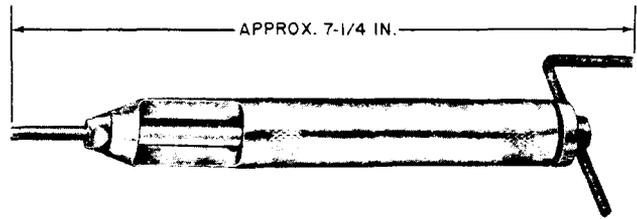

Fig. 32—HELI-COIL Corp Inserting Tool
**2.34 HELI-COIL\* Corp Inserting Tool:** The HELI-COIL Corp inserting tool (Fig. 32) is used for HELI-COIL inserts. In ordering, specify number of tool desired. This tool is used on the KS-13835 reader, and the inserts (Table A) must be ordered separately.